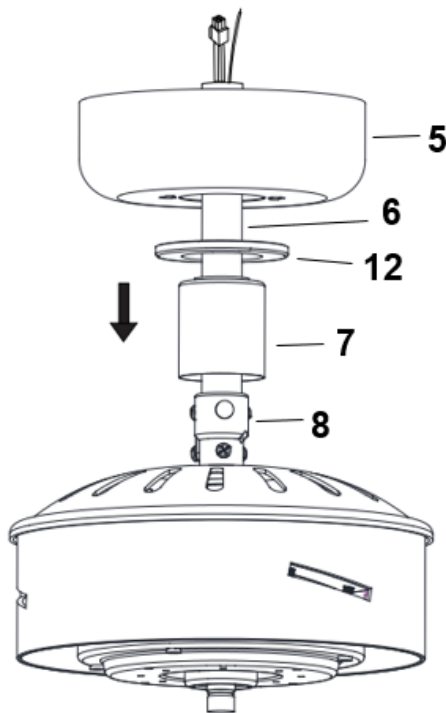
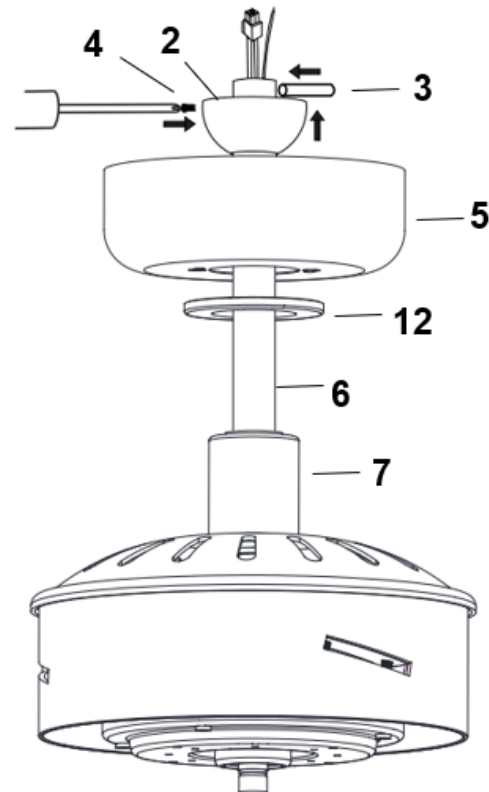

Fig. 4.5
Fig. 4.6
6. Insert the decorative cover (7) onto the down rod (6) to cover the down rod coupling housing (8). (Fig. 4.5)
7. Insert the canopy (5) & canopy cover (12) over the down rod (6) and install the ball joint (2) and dowel pin (3) back onto the down rod (6) and secure by tightening the set screws (4). (Fig. 4.5 and Fig. 4.6)